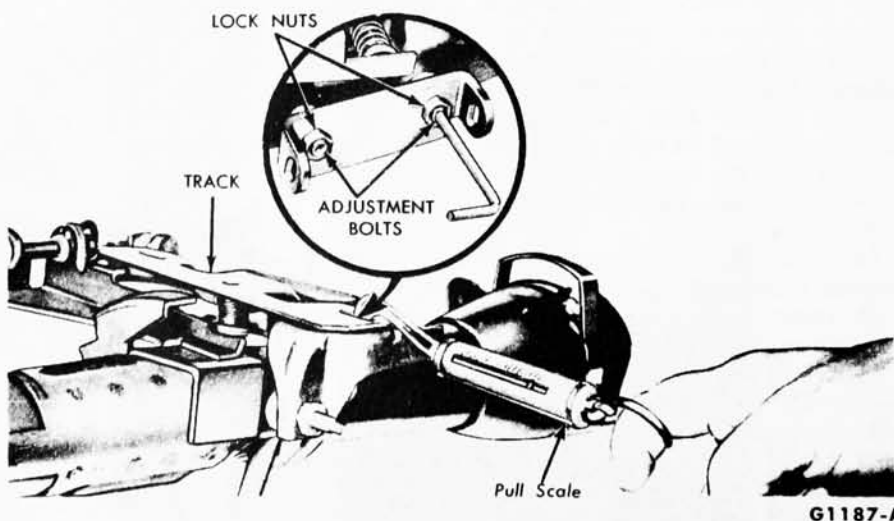

FIG. 16—Checking Track Sliding Effort
2. Connect a pull scale to the track and check the sliding effort as shown in Fig. 16.
3. To adjust the sliding effort, loosen the two lock nuts shown in Fig. 16. Tighten or loosen the two Allen head adjustment bolts as required to obtain a 10 lb. pull.